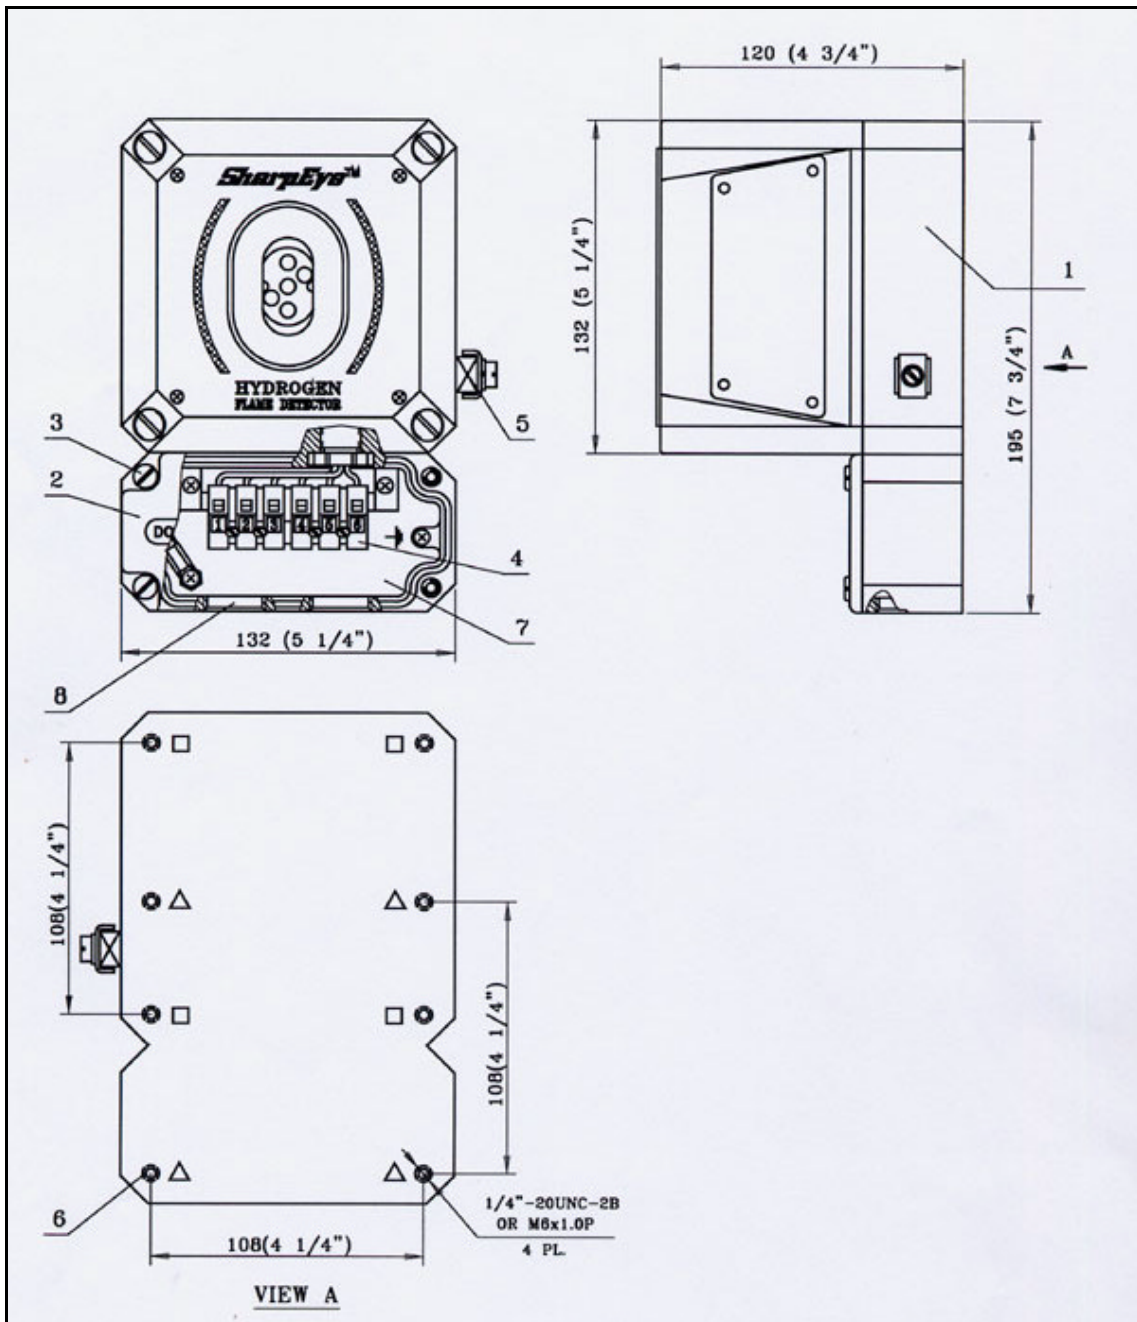

Figure 18: Flame Detector Assembly - Wiring Diagram
The EExde approved version provides an additional EExe terminal box attached below the EExd detector and therefore allows easier access in hazardous areas (see fig. 18). The detector is prewired to the terminals in the additional EExe terminal section ready for field wiring connections
- 3 Place the detector, with its conduit inlets pointing downwards, on the holding plate of the swivel mount (Fig. 9 item 7). Secure the detector by four (4) M6 screws with M6 spring washers from the Swivel Mount Kit using the holes (Fig. 9 item 5). You can use the thread on the modified cover (Fig. 18 item 1) marked either triangle symbol or square symbol. Use No. 5 Hex Key for M6 screws.
2. WIRING (REFER TO FIG. 18.)
- 2 Release the four (4) slotted-head screws (item 3) that secure the terminal box cover (Item 2). The terminal box is now revealed.